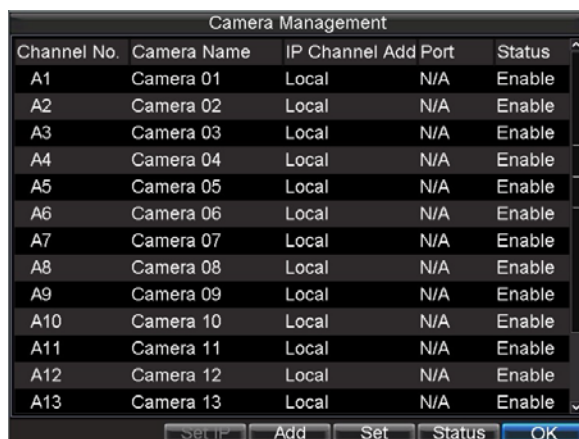

Figure 1. Camera Management Menu
1. Enter the Camera Management menu, shown in Figure 1 by clicking Menu > Settings > Camera.